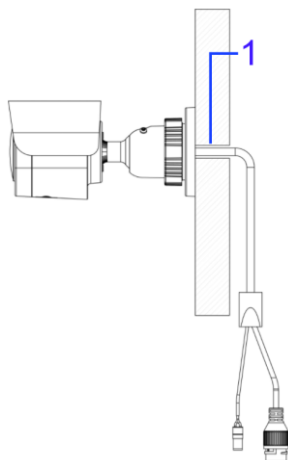

Figure 4
- hole on the mounting surface (1) (Figure 4).